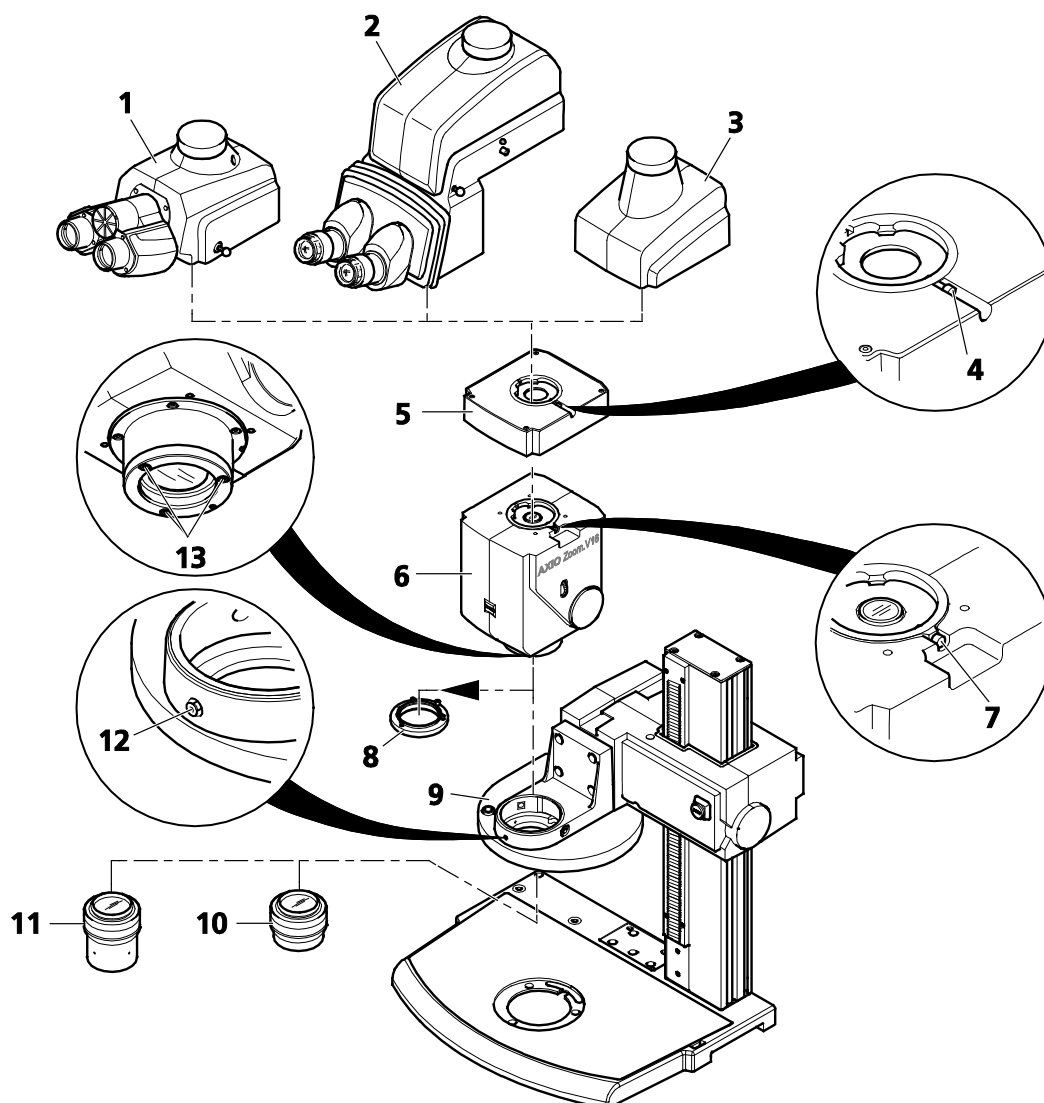

Fig. 6 Mounting the microscope
-  If the nosepiece is used, the threaded ring (Fig. 6/8) on the front lens of the microscope body must be removed. To do this, unscrew the three captive socket head screws (Fig. 6/13).
- Insert the body of the microscope (Fig. 6/6) into the mount ($\varnothing$ 76 mm) of the carrier or nosepiece (Fig. 6/9), align it and hand-tighten it (Fig. 6/12).
- Screw the objective (Fig. 6/10) counterclockwise into the body of the microscope until it engages. Screw a second objective (Fig. 6/11) into the nosepiece as required.
- Insert the tubes (Fig. 6/1, 2, 3) or intermediate tubes (Fig. 6/5) with dovetail mount into the body of the microscope and hand-tighten it with a socket head screw (Fig. 6/7 or 4) using a ball-head screwdriver.
Either an intermediate tube (spacer tube, Fig. 6/5) or Fluar Illuminator Z mot.) may be mounted between the body of the microscope and the binocular phototube. This increases the eyepoint height by 40 mm.